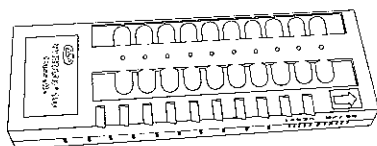

Figure 3.13 A hydrogen peroxide cassette with arrow indicating the direction it is to be inserted into the cassette door.
5. Find the direction arrow on the cassette (Fig. 3.13).